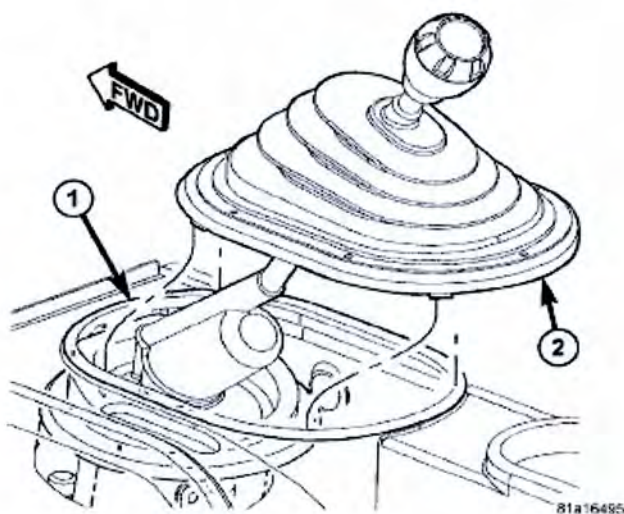

Fig. 3 Outer Shift Boot
- 4. Using a trim stick C-4755 or equivalent, separate the outer shifter boot from the console bezel and remove the boot (Fig. 3).